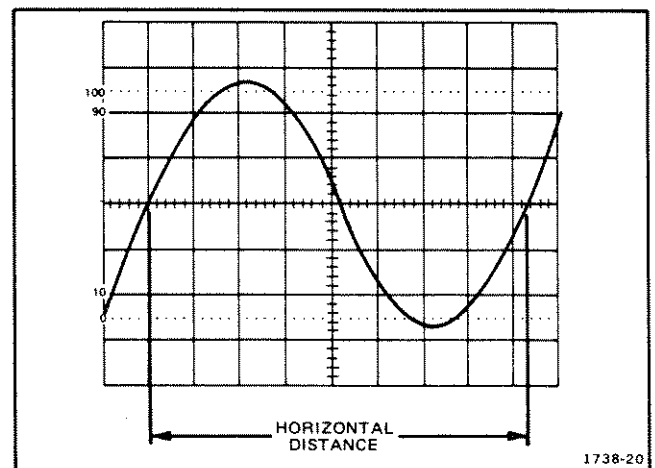

Figure 15. Time duration.
5. Position the display to place the time-measurement points on the center horizontal graticule line (see Figure 15).
EXAMPLE: The distance between the time-measurement points is 8.3 divisions (see Figure 15), and the A SEC/DIV switch is set to 2 ms. The X10 Magnifier switch is pushed in (1X magnification).
EXAMPLE: The signal in Figure 15 has a time duration of 16.6 ms.